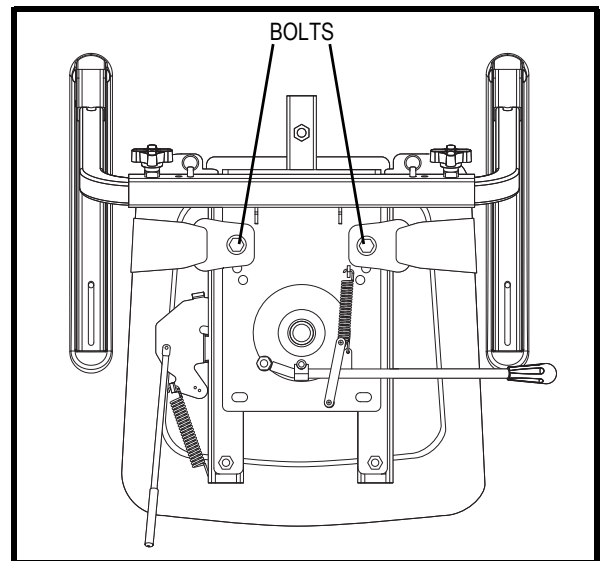

Figure 20A. Positioning Belt Bolts
2. Place the seat upside down so that you can see the bottom of the seat base. **See figure 20A.**